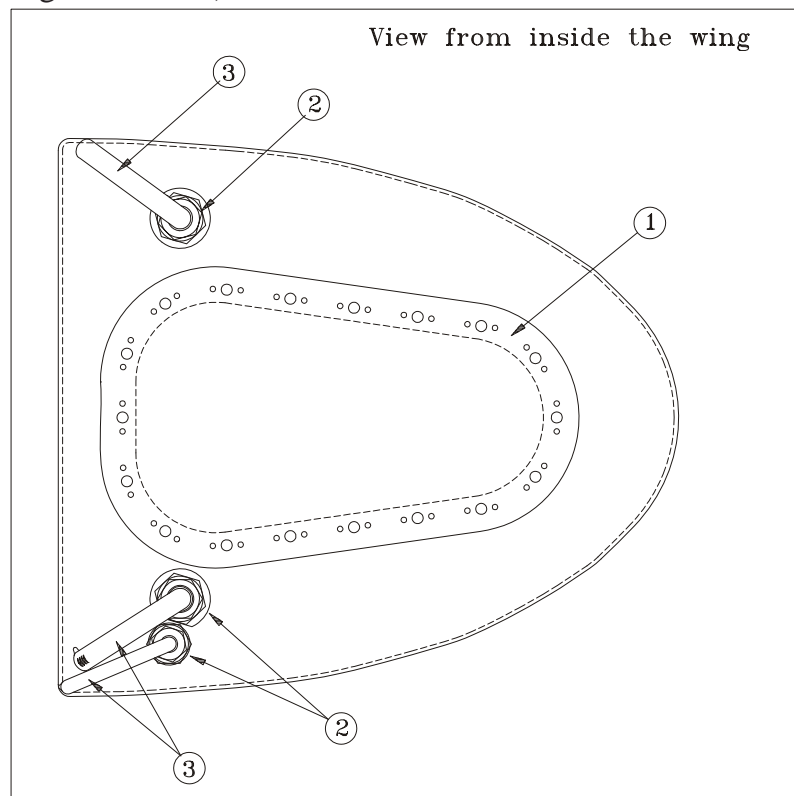

Figure 7 Wing Tank Outlets Removal/Installation
- 1 Remove the inspection door (1, Figure 7) per Chapter 28-10-04.
- 2 Remove the union nuts (2) and the elbow tubes (3).
- 5 Install in reverse sequence of removal after applying Scotch Clad 776 (see Chapter 51-30-04) to the sealing surfaces (fitting to tank root rib). Ensure that the outlet end positions are in the upper- resp. undermost edge of the wing tank (see Figure 7 below).